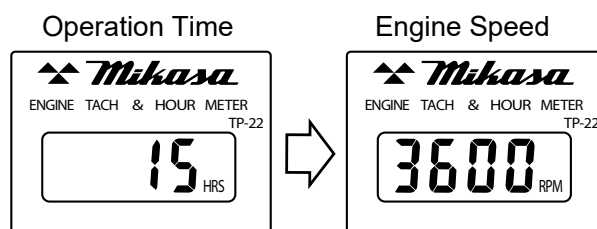

Figure 15. Hour Tachometer (Engine Speed)
9. During operation, the hour tachometer displays "rotation number" (Figure 15).